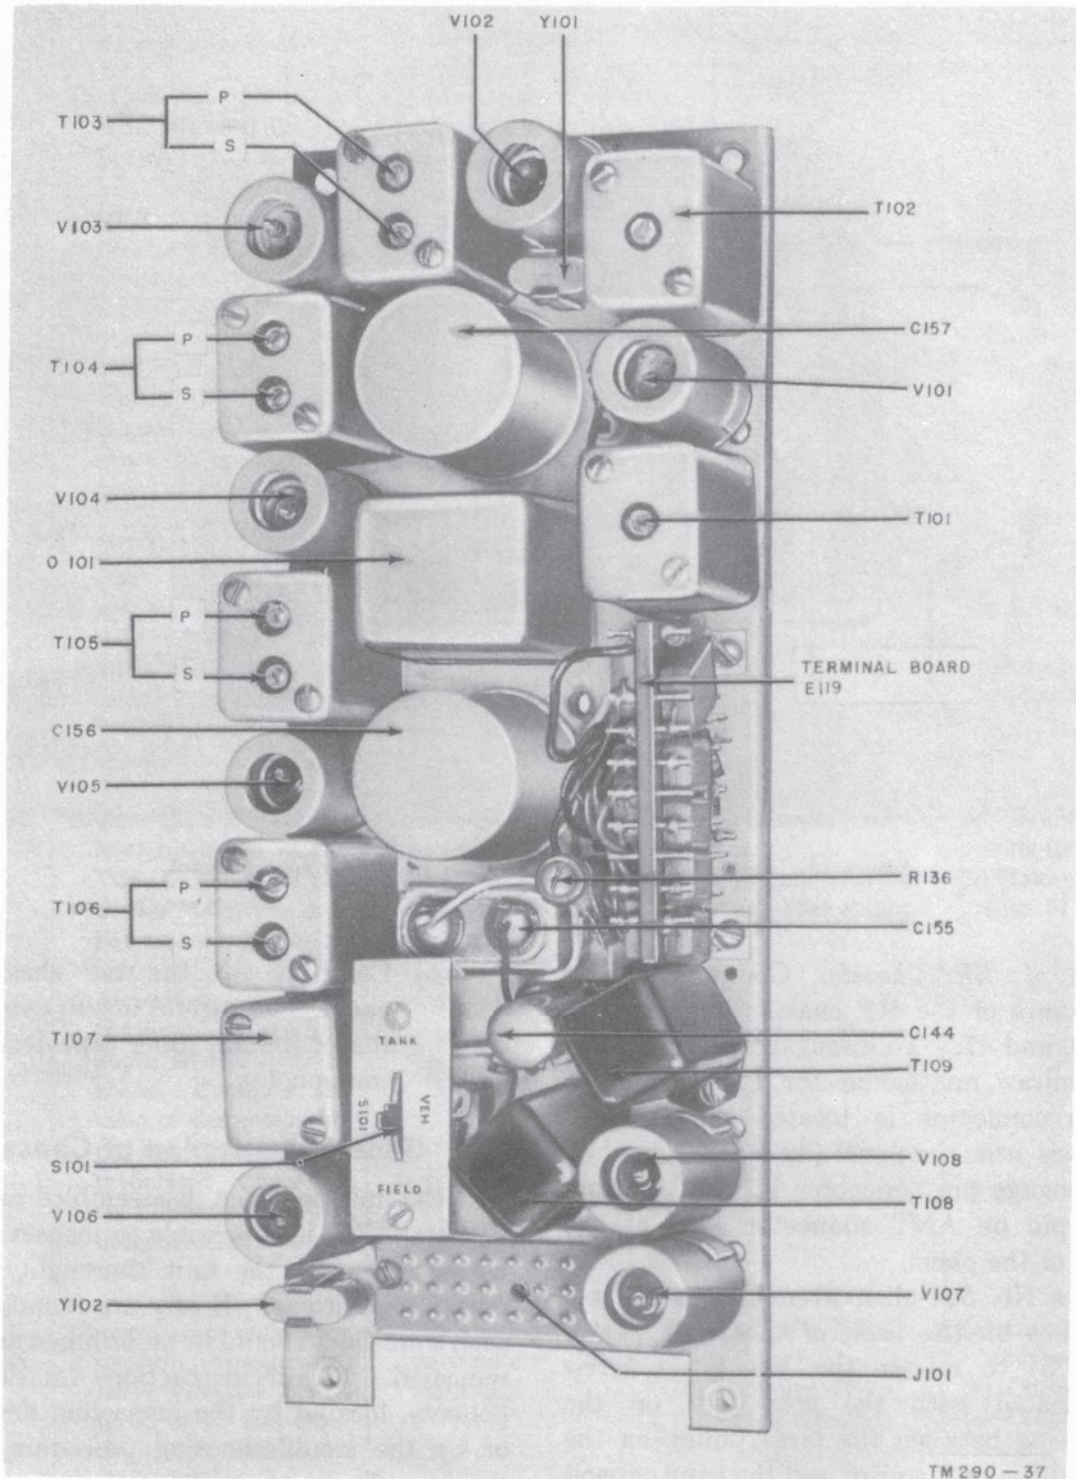

Figure 43. Receiver-Transmitter RT-70(*)/GRC, component side of IF chassis.
b. Removal of IF Chassis. Component and wiring side views of the IF chassis are shown in figures 43 and 44, respectively. To disengage the IF chassis, proceed as follows:
- (1) Place the unit on a solid support in its correct operating position.
- (2) Withdraw multiconnector P202 from J101 on the IF chassis. These connectors are located on the chassis near the panel.
- (3) Disengage pin connector P1 joining the plate of V11 on the RF chassis to pin 2 of T101 on the IF chassis. This lead is located on the top rear of the panel-and-chassis assembly.
k. Operate switches on the panel (fig. 1) and on the IF chassis (fig. 43) to each one of their operating positions to determine that they work easily with no searching for contacts. Where switch contacts are accessible, examine for evidences of corrosion, improper contact, or dirt. Proper switch contact may best be determined by continuity measures.